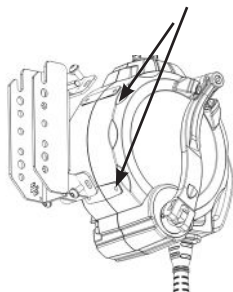

Figure 1
1. Secure the bracket to the SRL-R/RTFA-R using the four bolts provided in the position shown in figure 1.